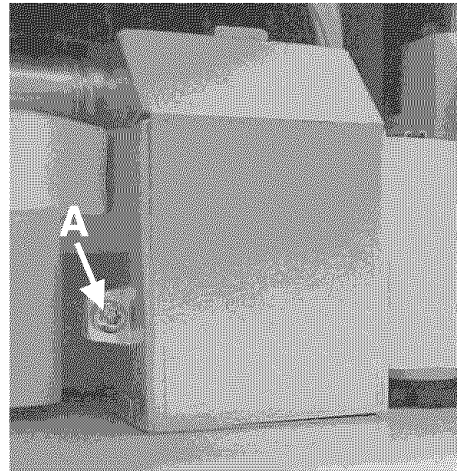

Figure 12
- 1) Remove the junction box cover by removing the screw on the left side of the junction box, as shown in Figure 12, letter A, and lifting the junction box cover up and off.